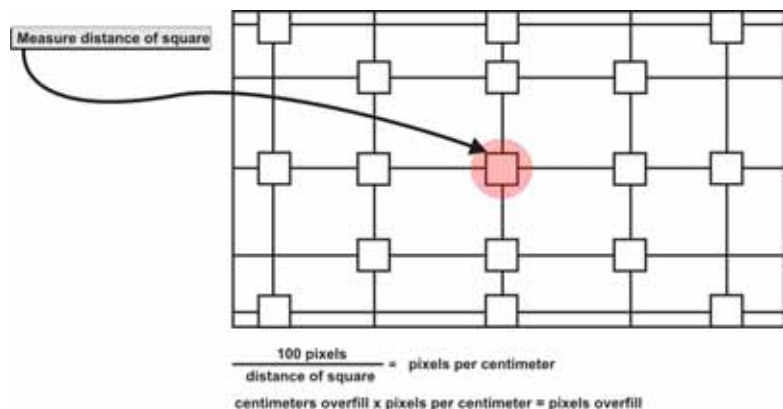

Figure B-3 Test Pattern
2. Use a ruler to measure the width of a square on the test pattern (**Figure B-3**). This box is 100 pixels wide.